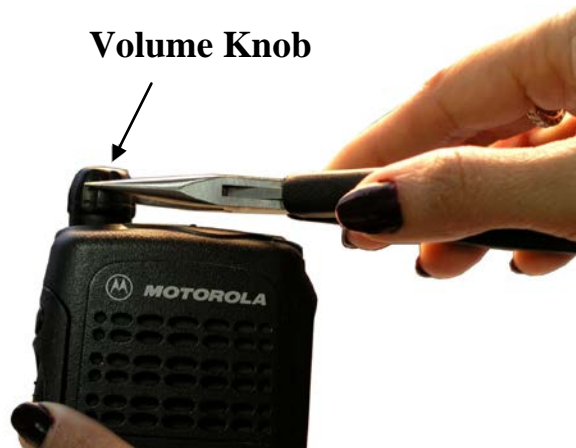

Figure 21-38 Removing the Volume Knob
1. Remove the original plastic volume knob cover from the radio by pulling it out with pliers, as shown in Figure 21-38.